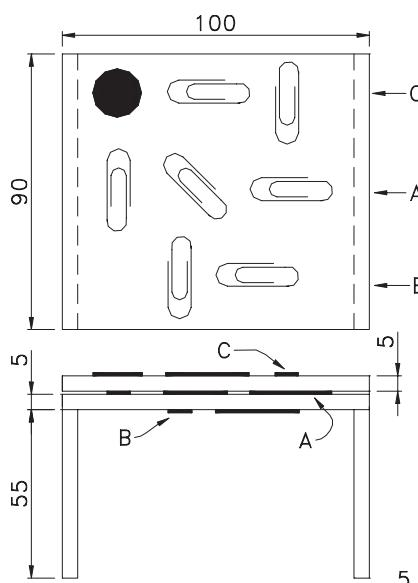

Fig B-10. Tomographic resolution test tool
- Refer to the drawing, Fig B-10.